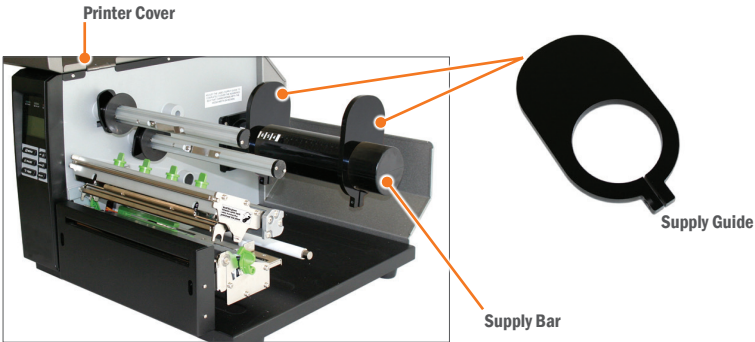

Figure 2
- C. Remove and set aside the outside supply guide from the supply bar (Fig. 2).